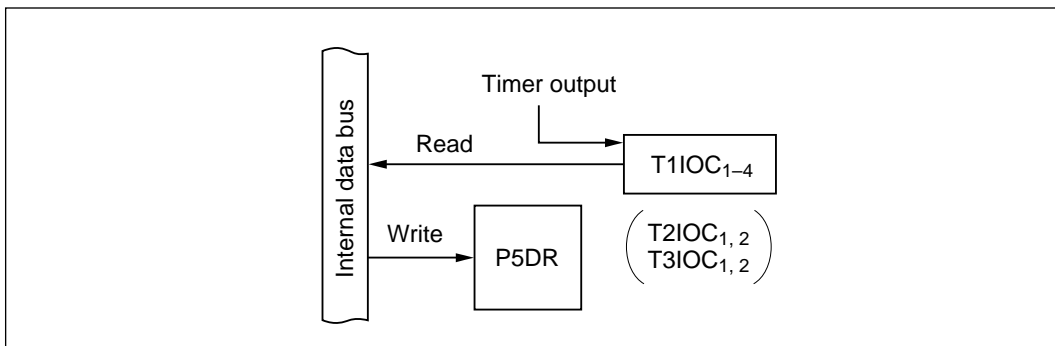

Figure 10-31 Output Compare Pins (Modes 1 to 7)
(3) Timer Output Pins (Modes 1 to 7): Figure 10-31 shows a block diagram illustrating the output compare function. Table 10-24 indicates register read/write data. When a pin in port 5 is used for output compare, the value in the port 5 data register (P5DR) has no effect on the timer output. P5DR can be read to monitor the timer output level (T1IOC₁ to T1IOC₄, T2IOC₁, T2IOC₂, T3IOC₁, T3IOC₂).